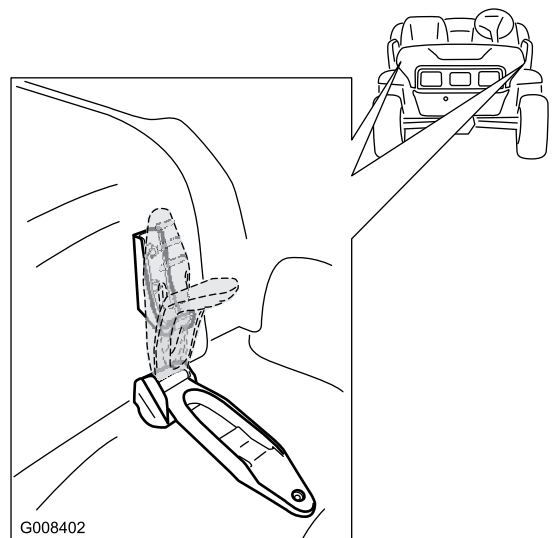

Figure 24
1. Release the rubber straps on both sides of the hood (Figure 24).